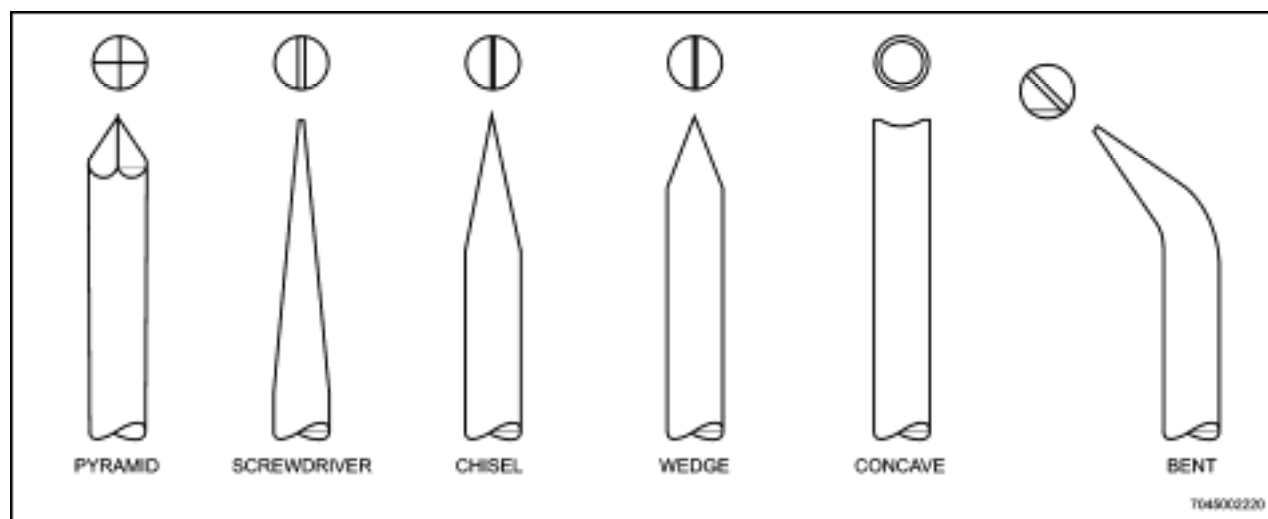

Figure 7-3 Soldering Iron Tip Shapes
28. Select the tip best suited for the size and shape of the work being soldered. Some common tip shapes are shown in Figure 7-3. Soldering iron tips are available in sizes from 1.6mm to 50mm in diameter. For general use, a tip of 6mm to 9mm diameter is recommended. For printed circuit soldering, use a long shank tip of 1.6mm, 2.4mm, 3mm or 4.8mm diameter. Screwdriver, chisel, and pyramid shapes are recommended.